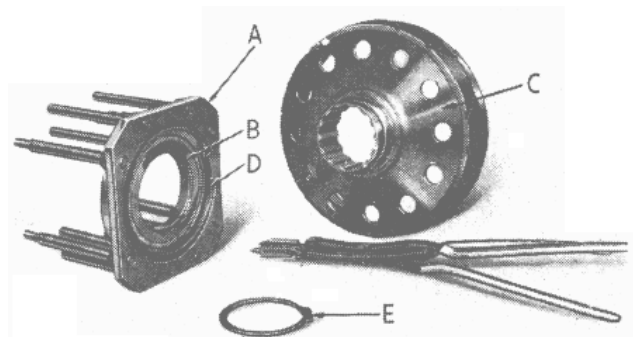

Fig. 17 Assembling the Sliding Member.
- (c) Assemble the sliding clutch member. Press the ball bearing (B) into the housing in the thrust ring (A) and secure with the external circlip (D). The thrust ring and bearing is then pressed on to the cone clutch member (C) and secured with the internal circlip (E) using suitable circlip pliers (Fig. 17).